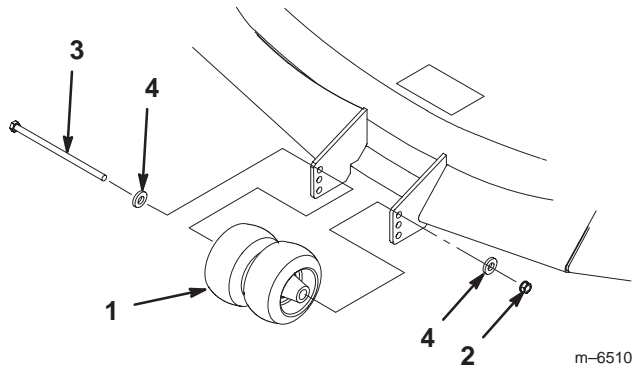

Figure 3
2. Install the center gage wheels with the previously removed bolt, small washer and nut (Fig. 3).